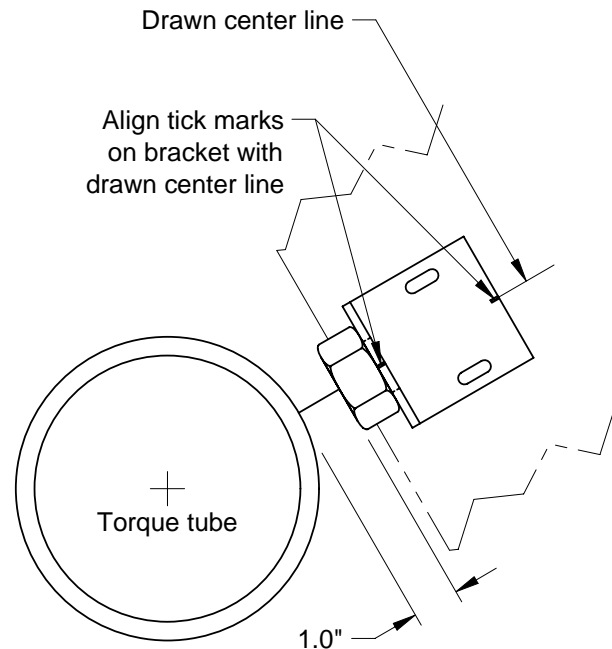

Figure 10-C
2. Remove the "Center Line Locating Tool" pattern from the section 10.7. Place the "Center Line Locating Tool" on the torque tube and mark a line on the body structure where the bracket will be installed, see Figure 10-B.